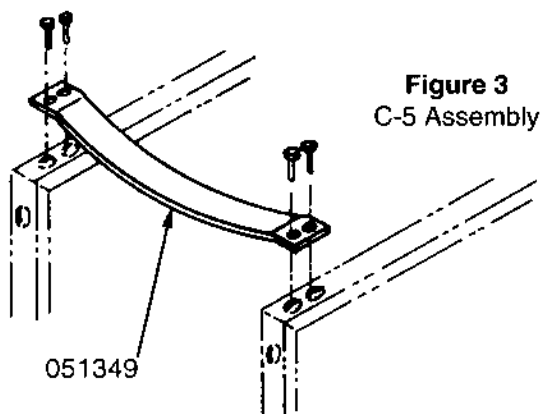

Figure 3
- (1) Bolt second saddle (#051349) to 4 holes in the top of both side frames (#054178). See Figure 3.
- (2) Tighten all bolts. Assembly of the C-5 is now complete.